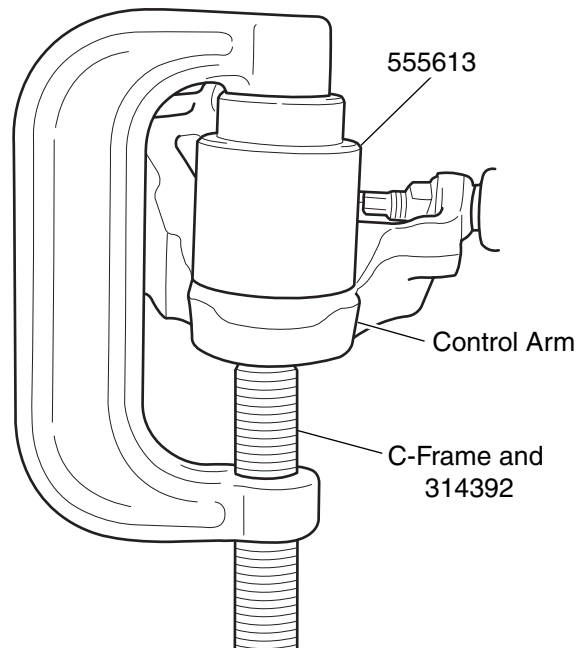

Figure 1. Ball Joint Removal
2. Position 314392 and the C-Frame as shown in Figure 1.